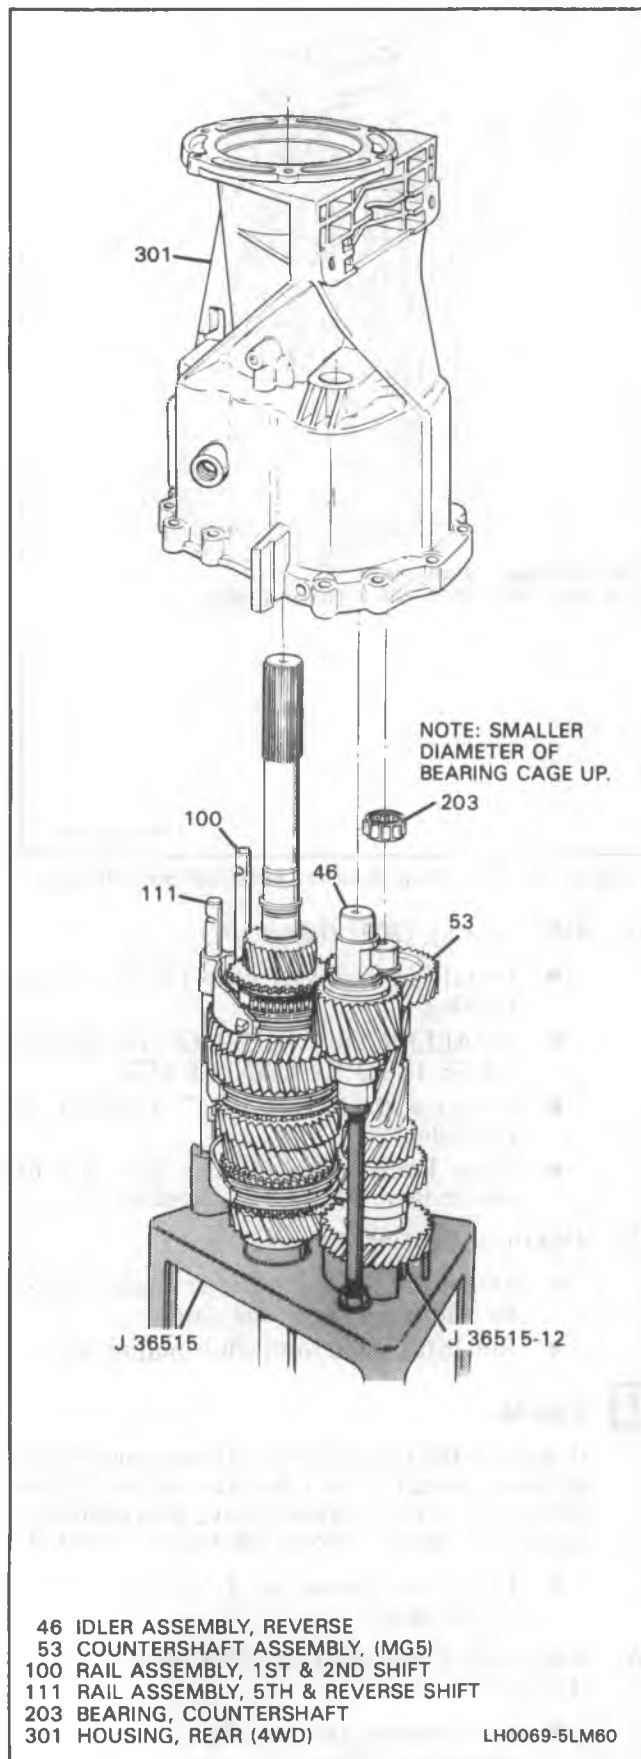

Figure 67 4WD Rear Housing Install
14. 4WD bearing (203) (Figure 67).
- Install in bearing race (202) of the housing.
15. 4WD rear housing assembly (301).